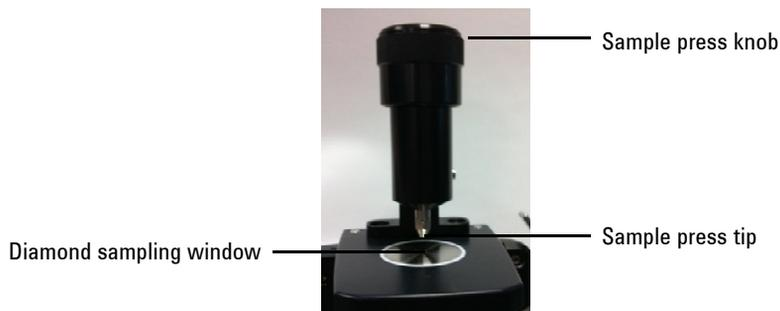

Figure 5. Diamond ATR accessory sample press in highest position
In the sample loading and cleaning mode, the sample press should be in the highest position, so the sample press tip is well above the diamond sampling window (see Figure 5). It is in this position that the sample mounting area can be easily accessed for loading the sample into place and for cleaning the sampling surfaces before the next sample is analyzed.
- 1 Open the sample press by rotating the top knob counterclockwise until the top of the press travel is reached (see Figure 5).
- 1 Turn the sample press knob in a counterclockwise direction to open the sample press so that the tip is elevated slightly from the diamond sampling window (see Figure 5).
In the sample loading and cleaning mode, the sample press should be in the highest position, so the sample press tip is well above the ZnSe sampling window (see Figure 5). It is in this position that the sample mounting area can be easily accessed for loading the sample into place and for cleaning the sampling surfaces before the next sample is analyzed.
- 1 Turn the sample press knob in a counterclockwise direction to open the sample press so that the tip is elevated slightly from the ZnSe sampling window (see Figure 5).